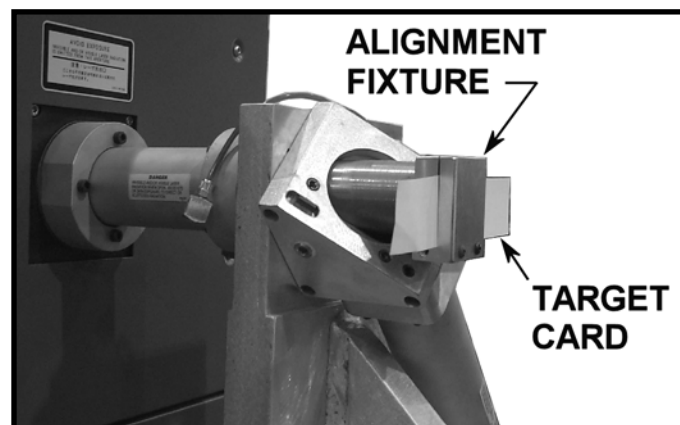

FIGURE 9-14 First external mirror alignment
2. Insert the alignment fixture in the mirror housing and insert the target card. See Figure 9-14.